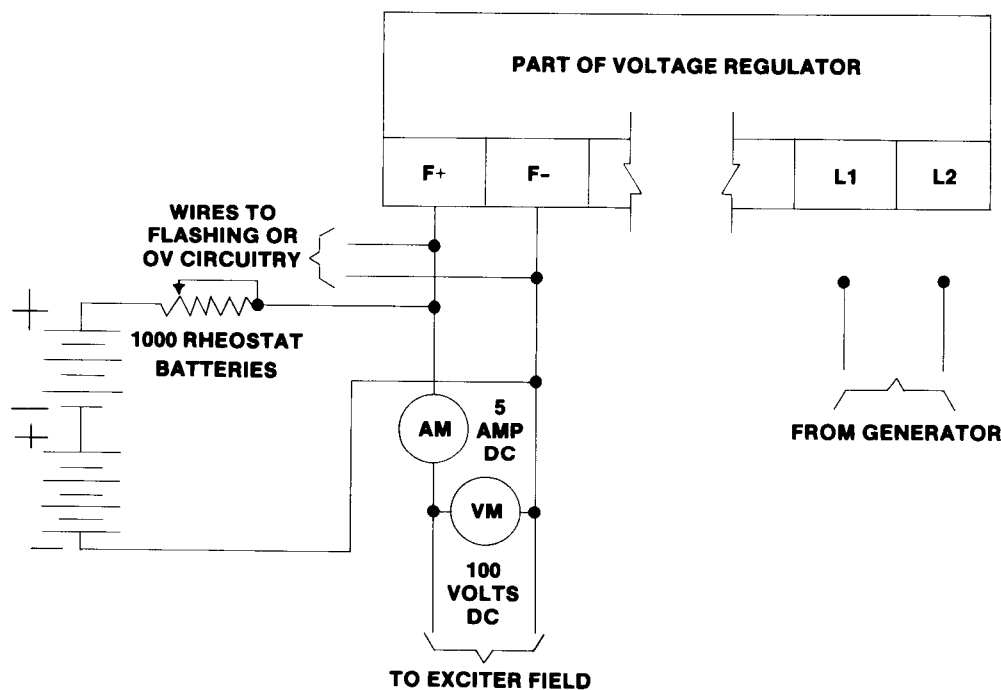

Figure 4-2 Typical Connection Diagram; Battery Powered Excitation Circuit for Trouble Isolation Test
Generator sets equipped with both automatic and manual voltage control can be tested in the manual voltage control mode to determine whether faulty system operation is due to a generator malfunction or faulty voltage regulator operation. In applications where generating system does not include the manual voltage control circuit, a manual voltage control circuit can be temporarily constructed to test the system by using batteries, a 100 ohm or larger rheostat, a 10 volt dc voltmeter and 5 ampere dc ammeter connected as shown in Figure 4-2. Several batteries may be connected in series to provide the required excitation voltage. Test as follows:
2. Connect batteries and test instruments as shown in Figure 4-2. Make certain none of the existing wires are removed from regulator terminals F+ and F-.